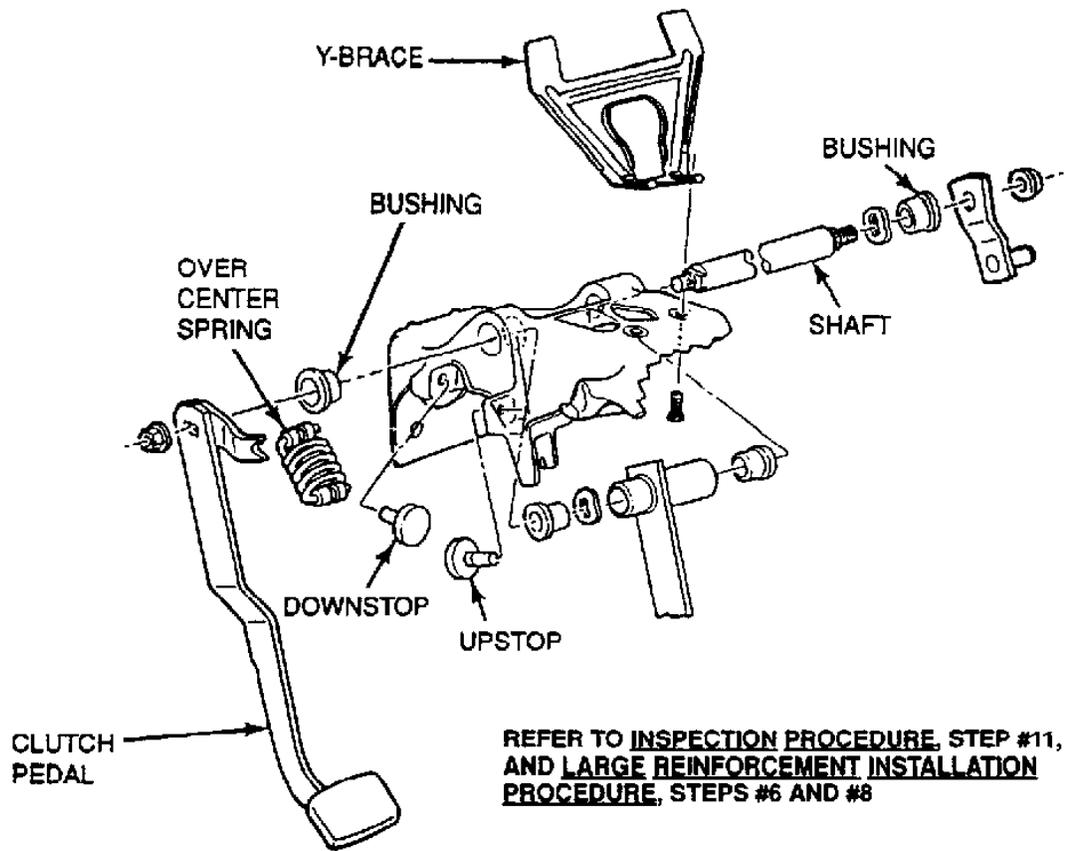

Fig. 4: View of Y-Brace & Clutch Linkage
- * Missing Y-brace fasteners and a broken or detached Y-brace, Fig. 4 .
4. Remove the steering column and dash toe plate by removing the five (5) fasteners.
- c. Loosen the two (2) fasteners attaching the brake and clutch pedal support to the Y-brace, Figure 4.
8. Thoroughly inspect the brake and clutch support again for cracks in the casting and worn bushings. Also, inspect the "Y" brace for cracks and missing fasteners. Replace as necessary, Fig. 4.